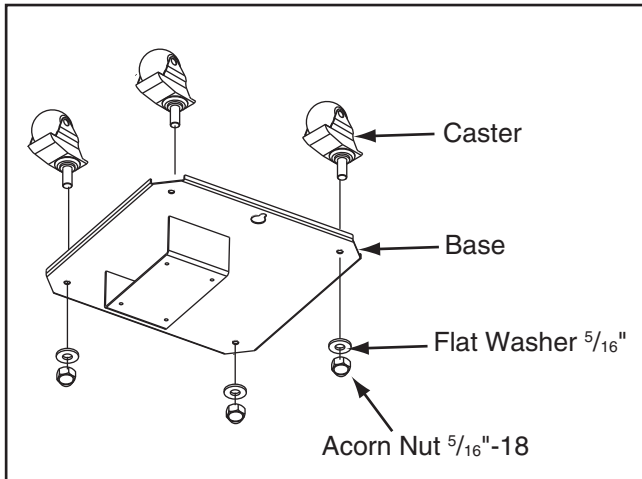

Figure 7. Mounting the casters.
1. Position the base plate upside down and mount the casters using the (4) $\frac{5}{16}$ " flat washers and acorn nuts, as shown in **Figure 7**.